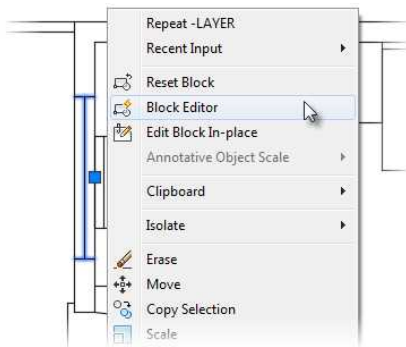

FIGURE 7.45: Accessing the Block Editor from the context menu
2. Select the A-GLAZ block inserted over the stove, right-click to display the context menu, and select Block Editor, as shown in Figure 7.45.